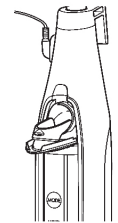

fig. 3
- 3 To open the water tank, pull the lid down. (fig. 3).